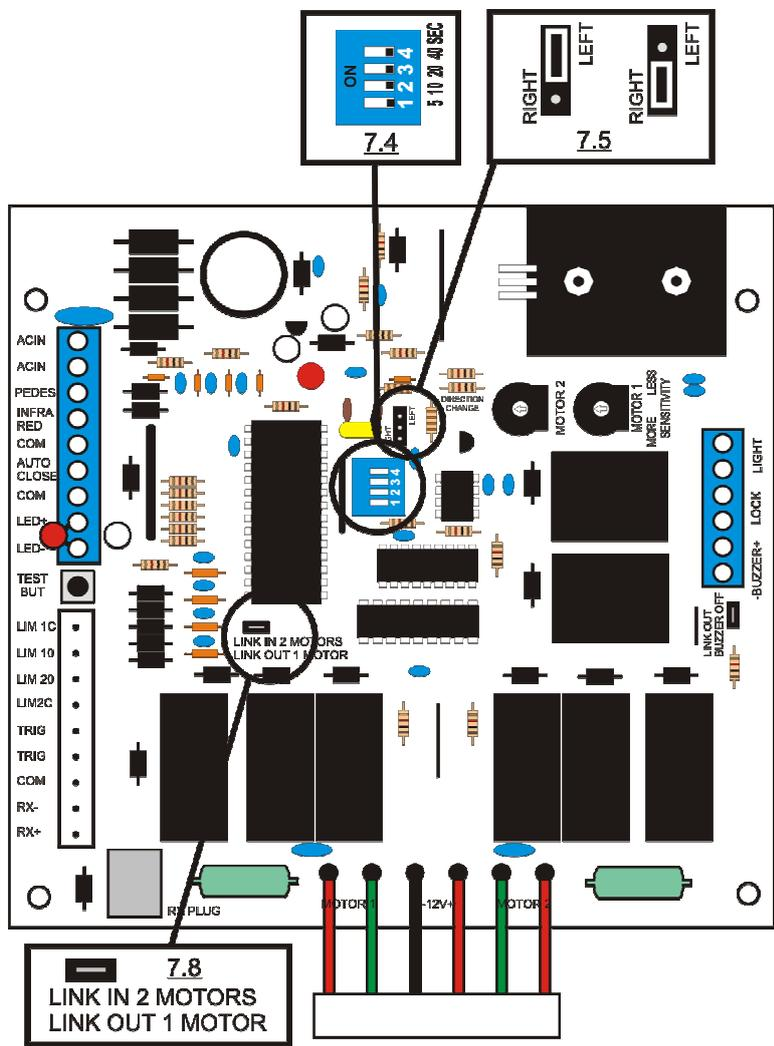

Figure 7
Refer to Figure 7 above
7.8 – SELECTING THE DOUBLE OR SINGLE SWING OPTION (See Figure 7)